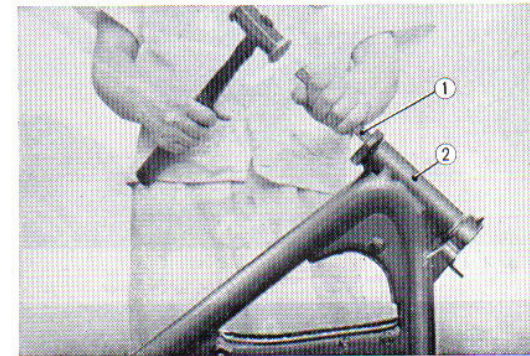

Fig. 4.38 Removing the ball race
12. Knock out the ball races from the head pipe by using a wooden drift. (Fig. 4.38)